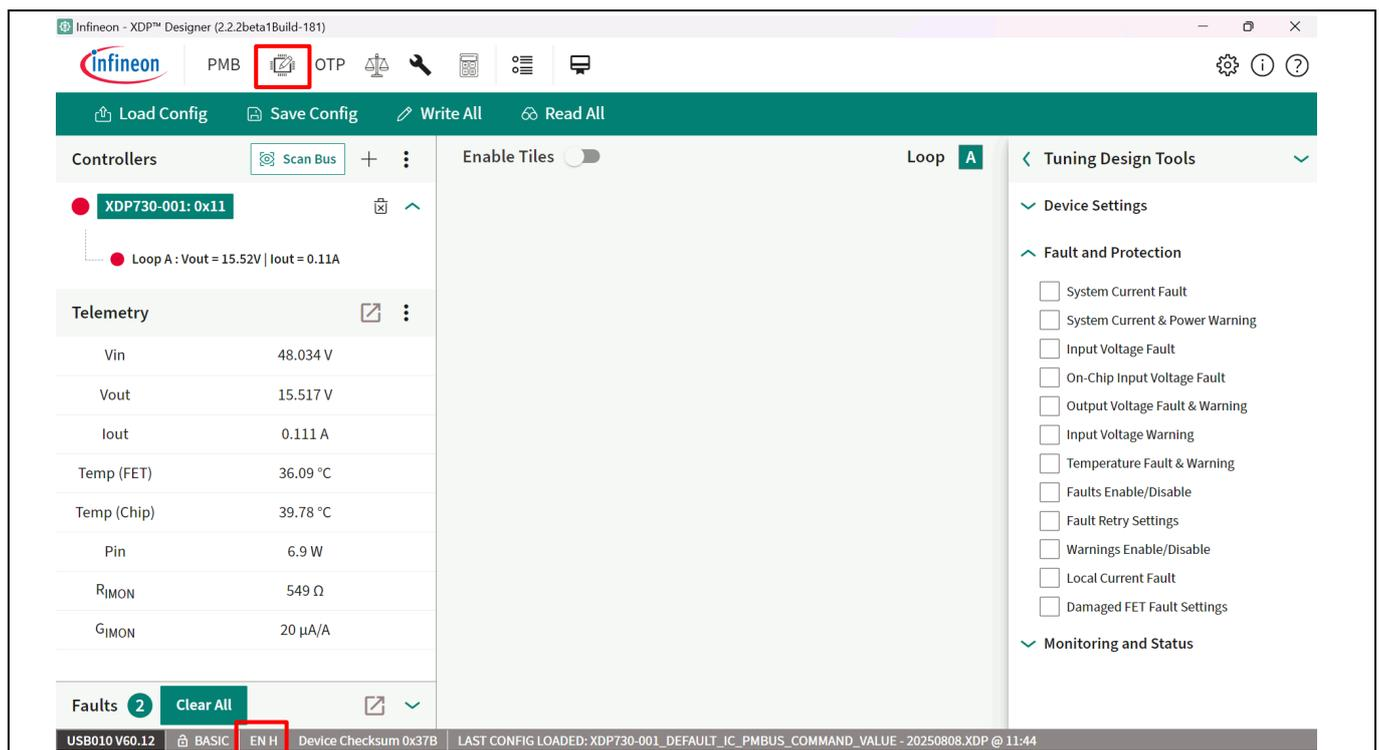

Figure 25 Programming tab
2. Click the button highlighted as shown in Figure 25